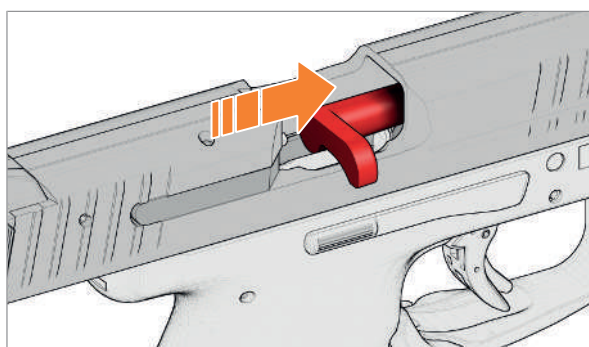

Fig. 31: Insert safety flag
3. Insert safety flag into chamber (Fig. 31).